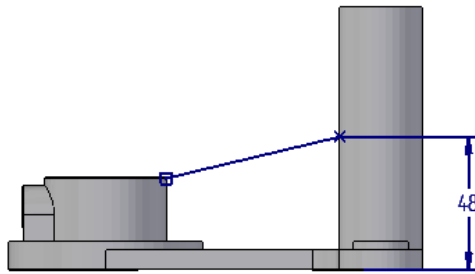

Figure 8-60 Profile for the rib feature
3. Draw a single line for the rib feature and add the required relationships and dimensions to it, as shown in Figure 8-60.